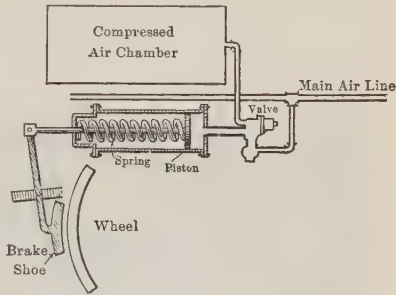

FIGURE 123.—SECTION OF AIR BRAKE.
**80. Air Brakes** give the widest use to compressed air. In the diagram of the air brake (Figure 123), the compressed air chamber, which is under the car, is connected with the brake cylinder by a pipe, and with the main reservoir on the locomotive by the main air line. An air compressor on the locomotive maintains an air pressure of 75 lbs/in2 in the